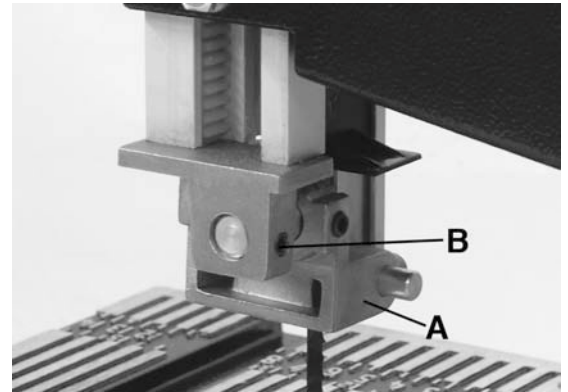

FIGURE 12
- 1) Adjust the position of the upper blade guide support (A) Fig.12 first. Loosen set screw (B) using a hex. key.